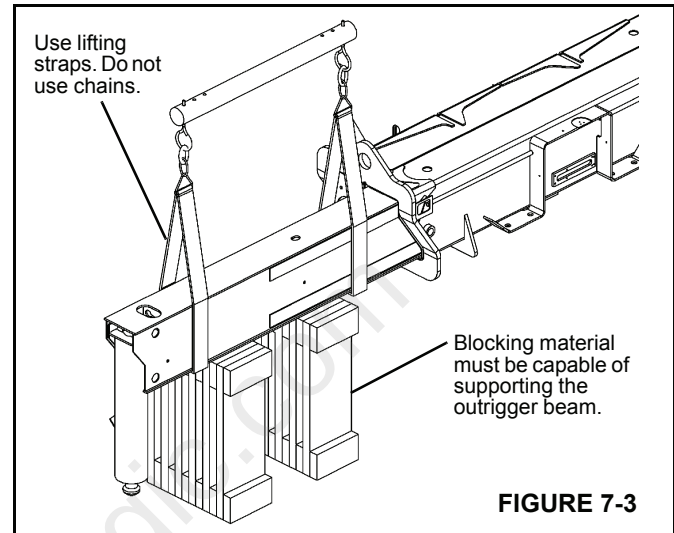

FIGURE 7-3
3. Extend the outrigger beam (10) slightly so that a lifting strap (Figure 7-3) can be attached to the outrigger beam.
9. Place blocking material under the outrigger beam (Figure 7-3).